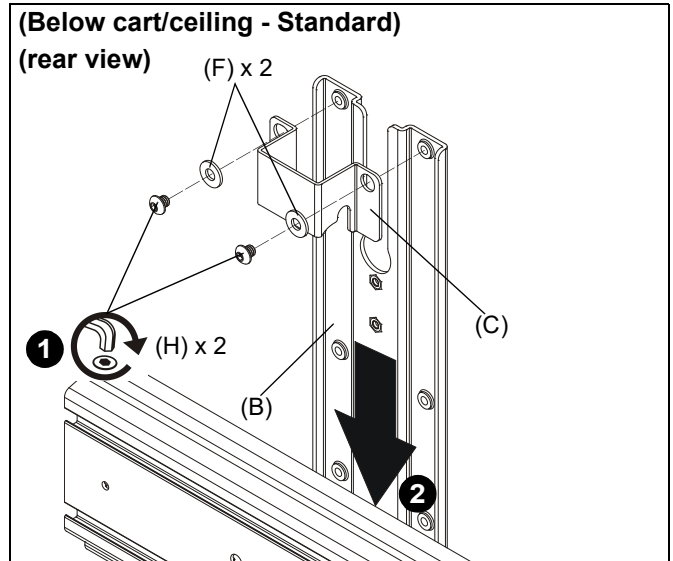

Figure 6
- Use two 1/4-20 x 1/4" button head cap screws (H) and two large washers (F) to secure shelf bracket (C) to main bracket (B). (See Figure 6)
- Slide main bracket (B) onto front of cart/ceiling mount head assembly until shelf bracket (C) rests on top of head assembly. (See Figure 6)